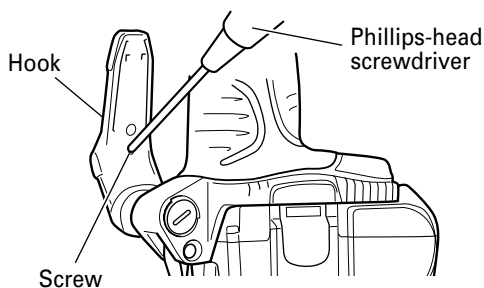

Fig. 15
**(4) Replacing the batteries**
- (a) Loosen the hook screw with a phillips-head screwdriver (No. 1). (Fig. 15)